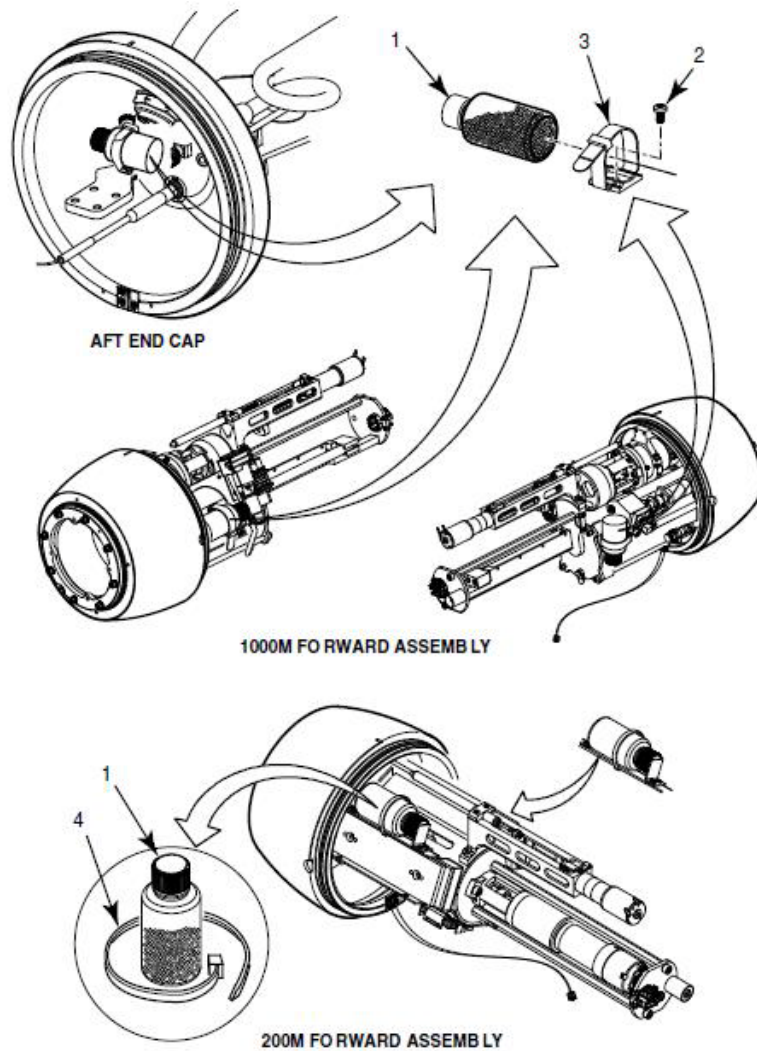

Figure 2-6 Ballast bottles, 60 ML.
1. As necessary, remove the screw (Figure 2-6, Item 2) that secures the ballast bottle bracket (Figure 2-6, Item 3).
2. Loosen the ballast bottle bracket (Figure 2-6, Item 3) or the zip tie (Figure 2-6, Item 4).
3. Remove the ballast bottle (Figure 2-6, Item 1).
1. Install the ballast bottle (Figure 2-6, Item 1).
2. Tighten the ballast bottle bracket (Figure 2-6, Item 3) or the zip tie (Figure 2-6, Item 4).
3. As necessary, install the screw (Figure 2-6, Item 2) that secures the ballast bottle bracket (Figure 2-6, Item 3).